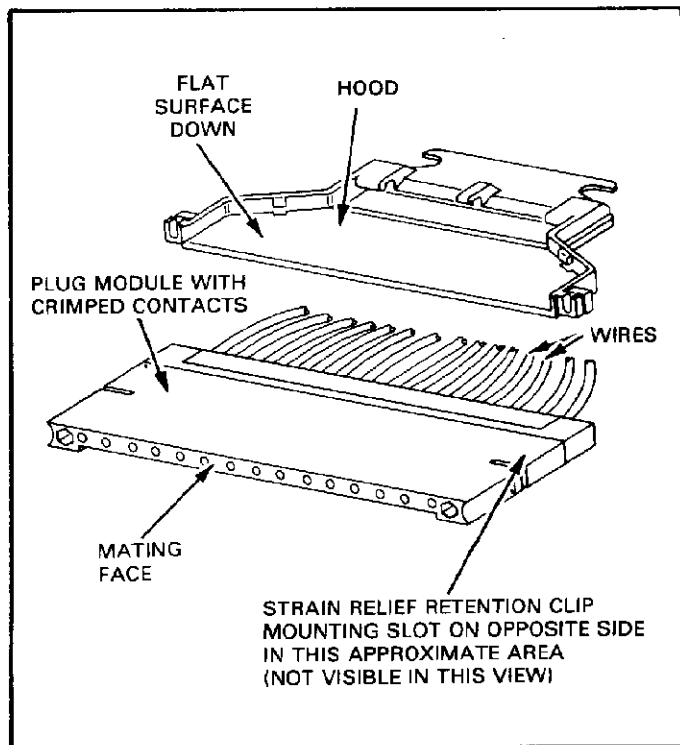

Fig. 4
1. Lay the plug module on a table or work bench as shown in Figure 4 — the mounting slots which accept the clips should be DOWN.
2. Position the strain relief hood on the table as shown in Figure 4 — its flat side is DOWN and the open portion faces the wire-entry face of the plug module. Then dress the wires through the back end of the hood.